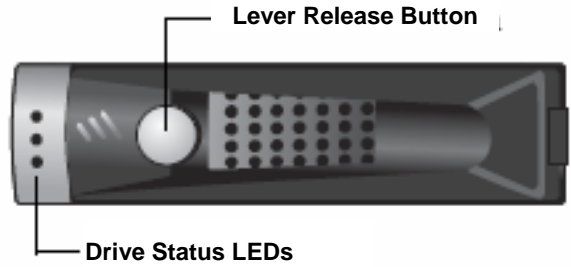
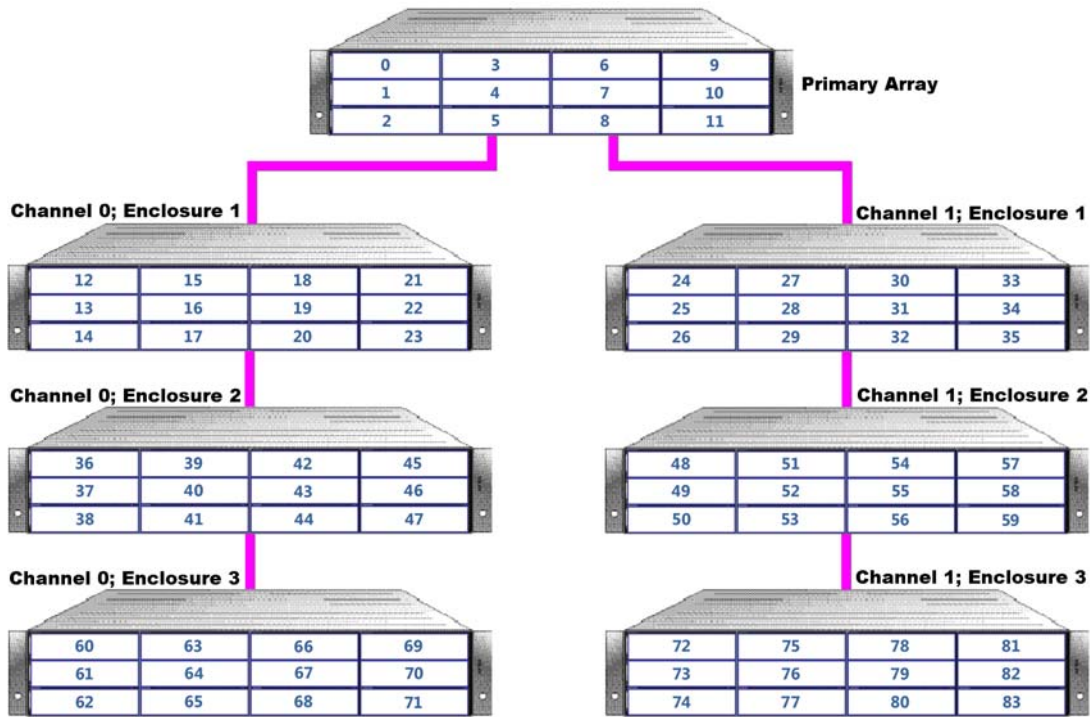

Figure 4-2. Close-up View of the Lever Release Button and Status LEDs on a Drive Carrier
Figure 4-3. Drive Numbers on the Primary and Expansion Arrays (iS512-08 and iS512-10G)
- Drive carriers - drives are mounted on a drive carrier. Drive carriers have a push-button lever for installing and removing drives, and three status LEDs (see Figure 4-2 and Table 4-2). Each carrier has a corresponding drive slot number (see Figure 4-3). Filler panels must be installed in all drive slots that are not occupied by a drive.